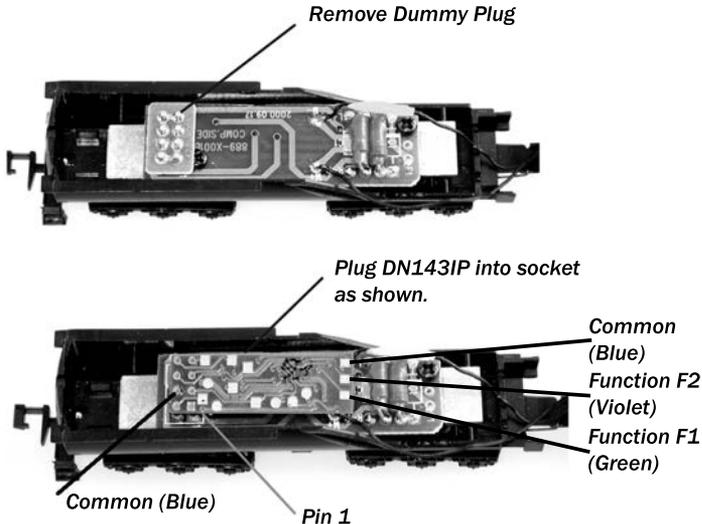

Figure 1
2. If you plan to use functions F1 (traditionally a green wire) or F2 (traditionally Violet), the return, also called +Common or Lamp Common, should be made via a wire *carefully* soldered to the pad indicated as shown in Figure 1.
Digitrax Transponding is controlled by CV61. The initial factory set value is 000 for **OFF**. To turn **ON** transponding, program CV61 to a value of 002. This allows you to use Digitrax transponding to keep track of your rolling stock. When transponding is enabled, the front light of the locomotive will flicker slightly to indicate transponding signal is being communicated. For optimal transponding operation, we recommend that you hook up the forward and rear lights as shown in the wiring diagram (*Figure 1*).
The DN143IP is set up at the factory to control four function outputs. The DN143IP is configured to control the forward and reverse lights on the locomotive through the plug using Function 0 (F0F-forward and F0R-reverse) for directional lighting. Function F1(Green) and F2 (Violet) outputs are available in the pad positions shown in figure 1. The wire colors indicated are the standard color code used in the industry. These colors are important if you plan to use function remapping.